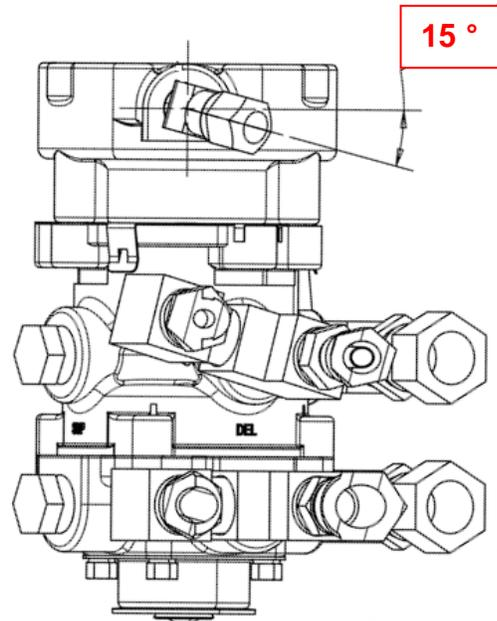

Figure 9: Align the 45 Degree Elbow
22. Install the 45 degree elbow removed in step 20 at the BVA port, see Figure 9.
23. Align the elbow as shown in Figure 9.